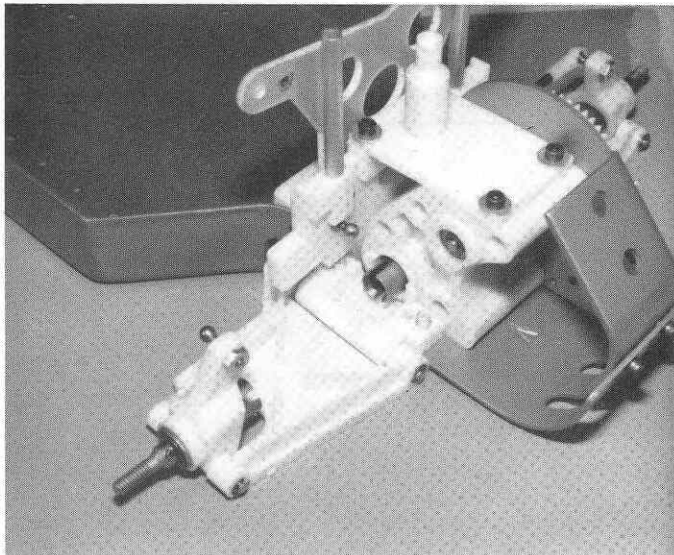

Fig. 113
□ **Fig. 113** Your L.H. rear end should look like this now.